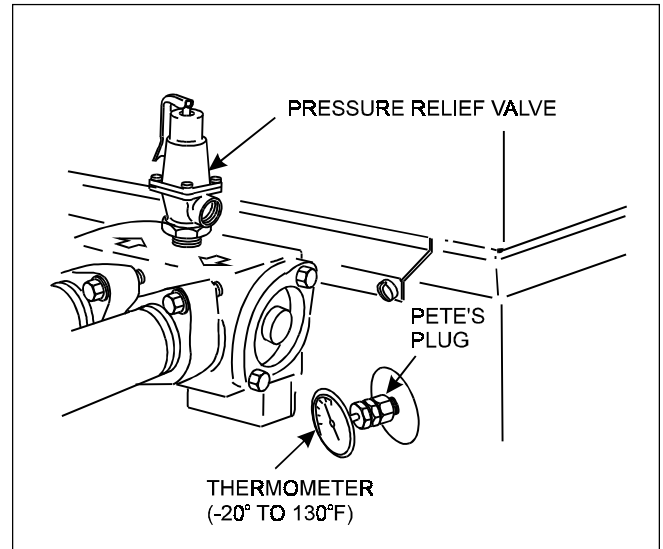

Figure 17. Thermometer and pressure relief valve.
To install a pressure relief valve, remove the 3/4 inch (19 mm) brass plug located on the top of the inlet/outlet header (see Figure 17). Install the pressure relief valve in the threaded hole from which the plug was removed. The pressure rating of the valve should be at or below the lowest working pressure of any component in the filter system. Any pressure relief valve installed must comply with provisions of the Standard described in ANSI Z21.22 for the United States, or CAN1-4.6 in Canada.
- Remove the drain plug located on the inlet/outlet header of the heater and replace it with a Pete's plug (see Figure 17).
- Insert a pocket thermometer (see Figure 17) through the Pete's plug into the header.
3. Insert a pocket thermometer (see Figure 17) through the Pete's plug into the header.
5. Turn rotary switch (LD) or the rocker switch (LG) on the temperature control to the OFF position.